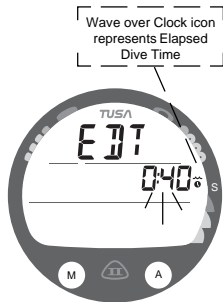

Fig. 21 - SET EDT AL
**SET EDT ALARM,** information includes (Fig. 21):